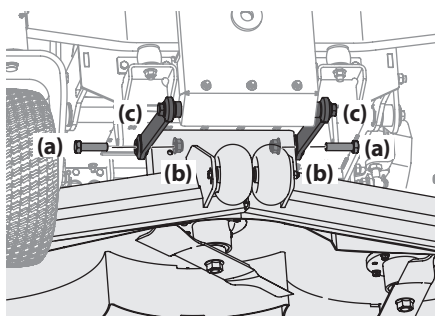

Figure 50
5. Remove the hex screws (a) and flange lock nuts (b) securing the front deck control rods (c) to the deck. See Figure 50.